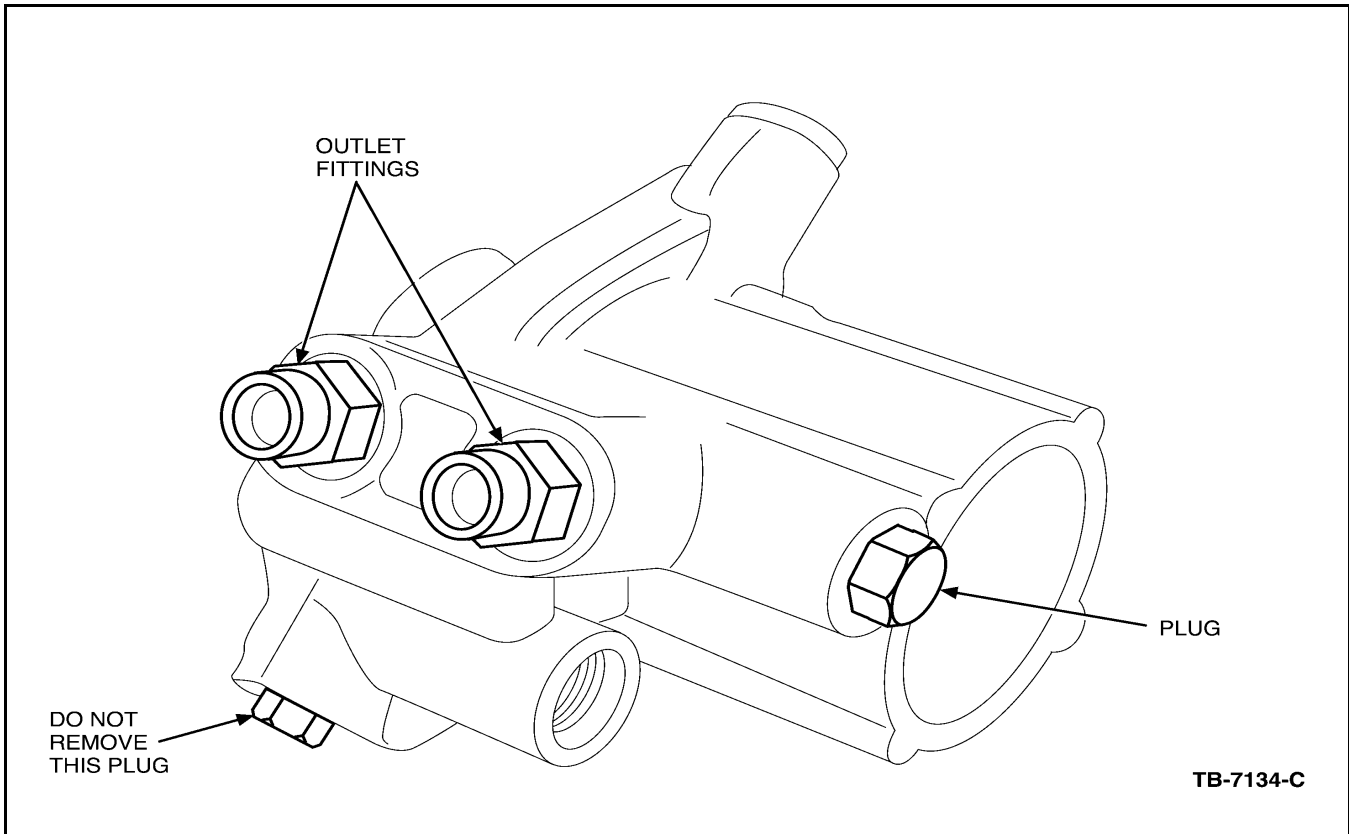

Figure 1 - Article 04-4-4
**DO NOT REMOVE OR ATTEMPT TO REPAIR A LEAK AT THE PLUG PICTURED IN LOWER LEFT CORNER OF FIGURE 1, OR DAMAGE TO THE PUMP WILL RESULT.**